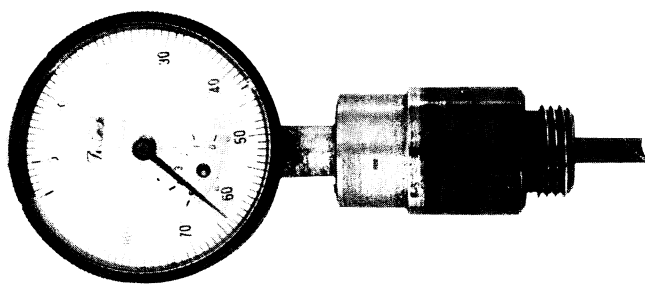

Fig. 3-34 Dial reading meter for checking top dead center.
**Dial Indicator.** A direct-reading meter, reading is usually in thousandths of an inch, for measuring shaft run-out, rim wobble, top dead center, etc. Screw-in, clamp-on, and magnetic bases are available (Fig. 3-34).